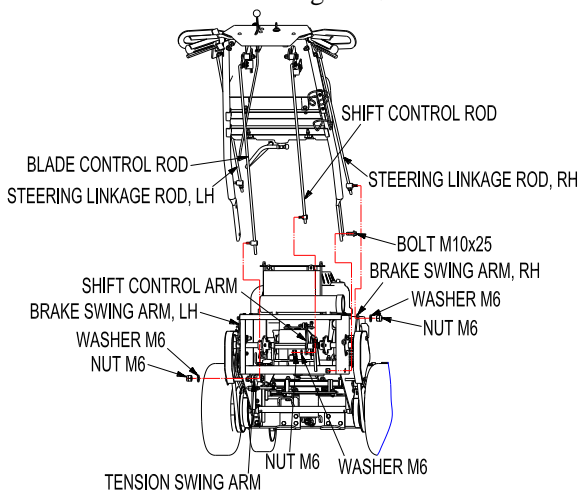

FIG 4
- Insert rod end connector threaded stud of left and right steering linkage rod assemblies through hole of left and right brake swing arms; add M6 nut and washer and tighten. Next, insert rod end connector threaded stud of shift control rod assembly through hole of shift control arm; add M6 nut and washer and tighten. To finish, insert rod end connector threaded stud of blade control rod assembly through hole of tension swing arm; add M6 nut and washer and tighten. See FIG 4